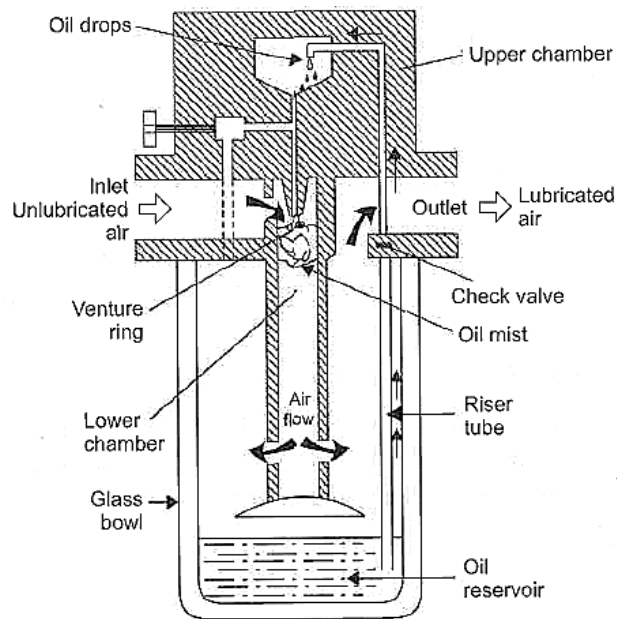

Fig.4.15 Air Lubricator
- ▶ The operation of the air lubricator is similar to the principle of a carburettor. The schematic diagram is shown in *Fig.4.15*. As air enters the lubricator, its velocity is increased by a venture ring.